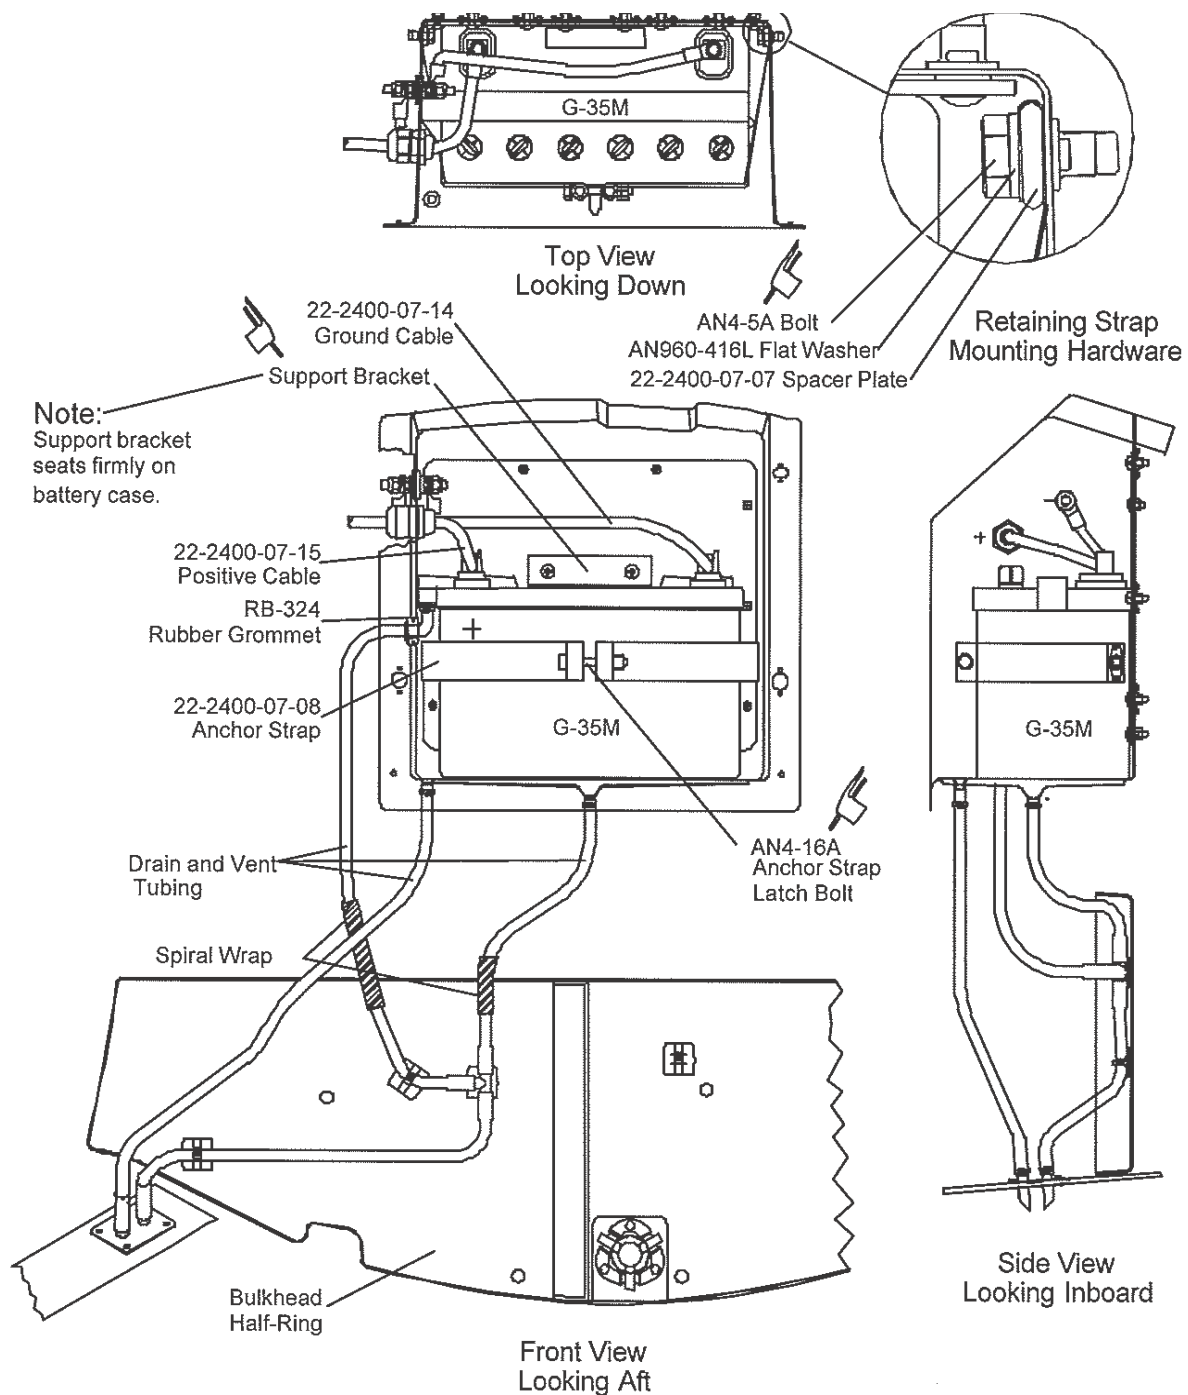

Figure 1
- 10.4 Remove the rubber plug from right side of battery housing and install the new rubber grommet as in Figure 1.
- 10.5 Reroute the vent and drain tubing as in Figure 1.
- 10.6 Install the new anchor strap mounting hardware as in Figure 1.
- 10.9 Install the new battery (reference DA201-C1, chpt. 24-31, sec. 3B). Discard old anchor strap latch bolt and install new bolt P/N AN4-16A as in Figure 1.
- 10.10 Install the support bracket. Elongation of the housing holes may be necessary for proper fit on the battery (see Note in Figure 1).